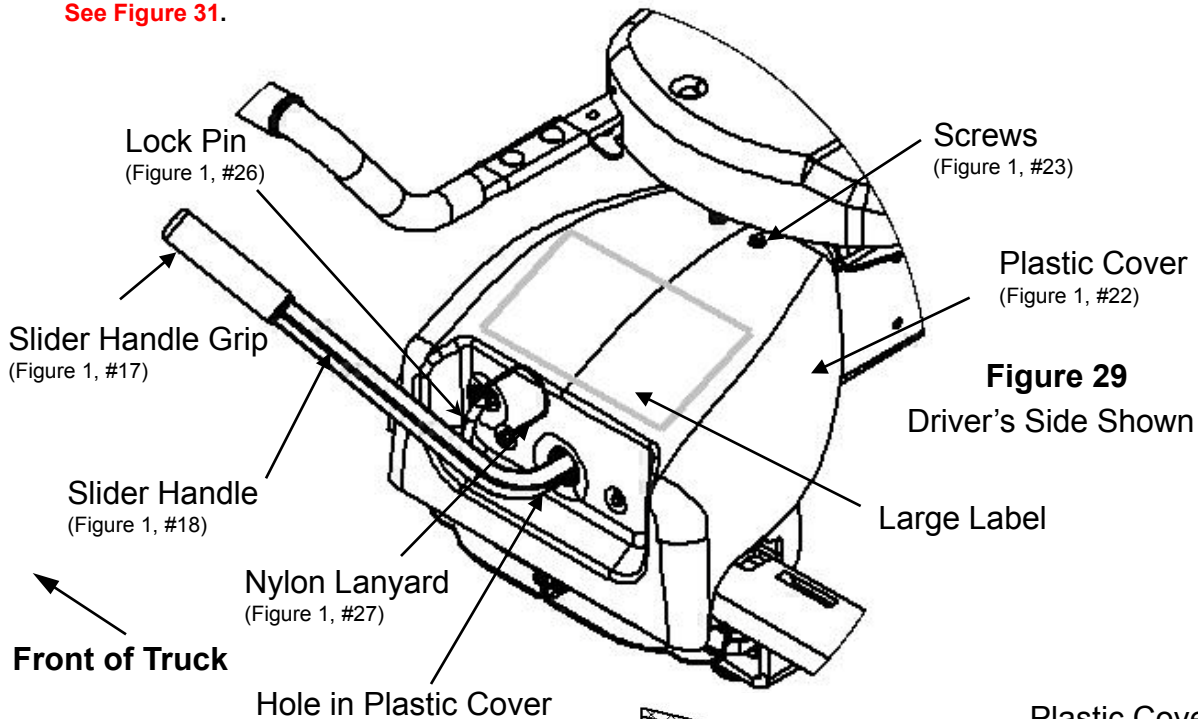
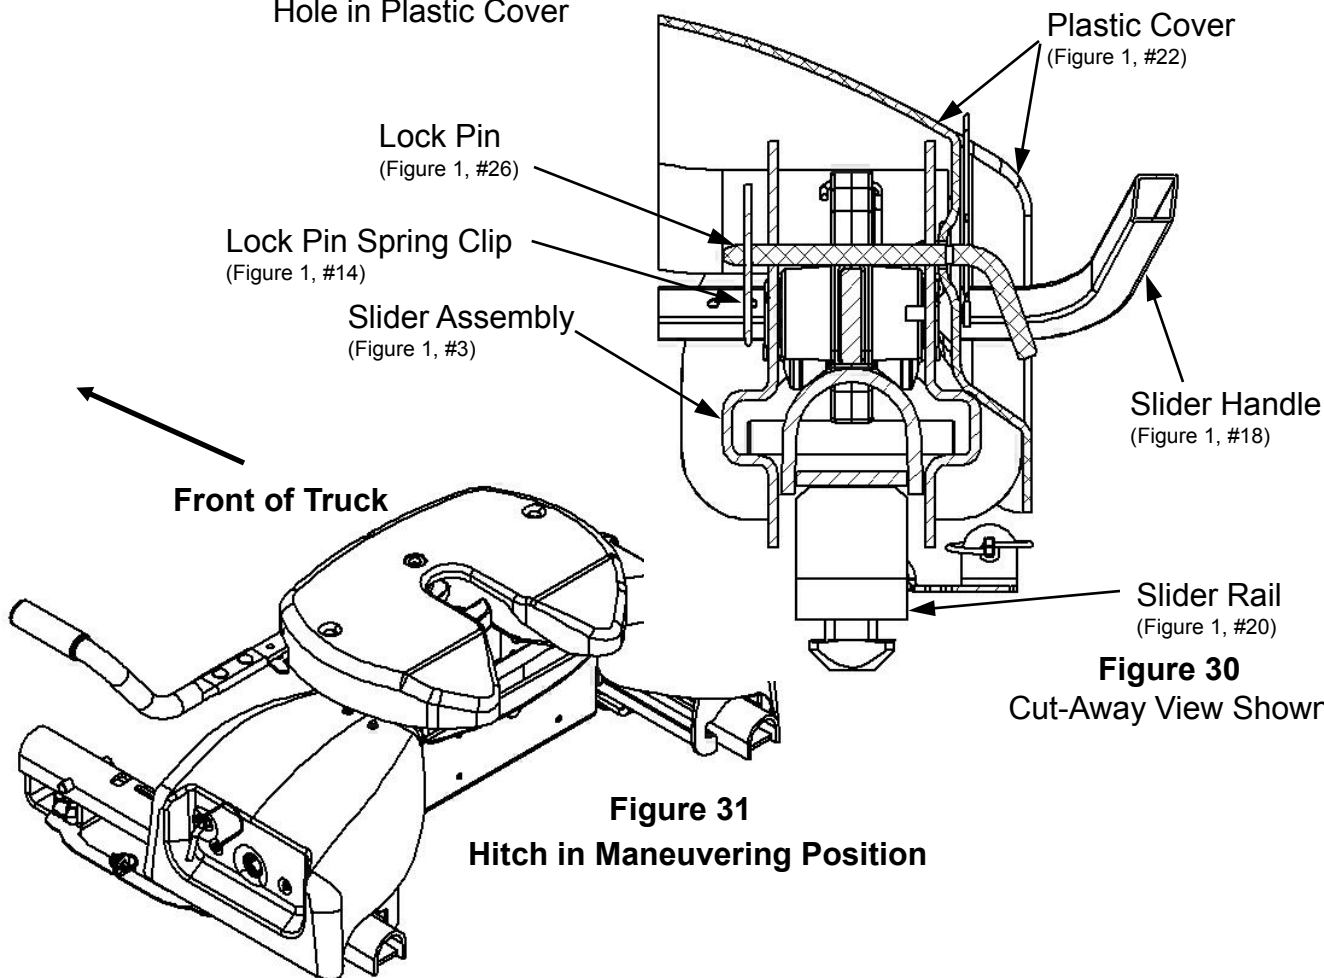

Figure 29
Figure 30
25. Use the supplied screws (Figure 1, #23) to install the plastic covers (Figure 1, #22) by sliding it around the slider handle (Figure 1, #18) through the hole in the plastic cover (Figure 1, #22). See Figures 1 & 29. The plastic cover (Figure 1, #22) with the larger label should be placed on the driver's side of the truck. Install the lock pin (Figure 1, #26) and nylon lanyard (Figure 1, #27) using the screws provided (Figure 1, #23). Secure the lock pin (Figure 1, #26) with the spring clip (Figure 1, #14). Install the slider handle grip (Figure 1, #17) onto the slider handle (Figure 1, #18). See Figures 29. The lock pin (Figure 1, #26) and spring clip (Figure 1, #14) is a device that keeps the "Jaw" mechanism from opening. Therefore it must be installed and used anytime the hitch is in use, see Figure 30, except when the sliding mechanisms needs to be in operation for maneuvering the hitch to and from the maneuvering position. See Figure 31.